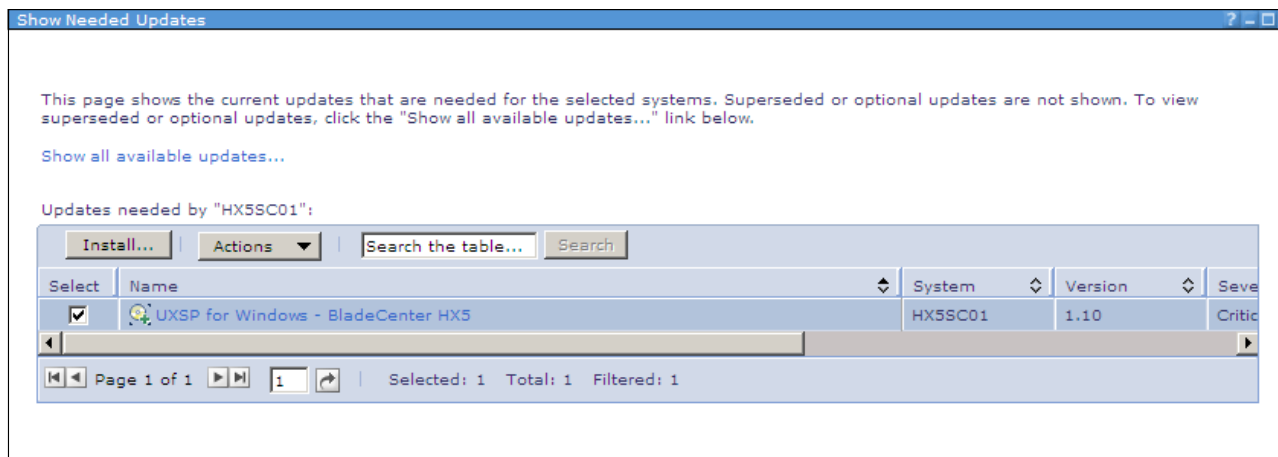

Figure 9-44 Available updates to be deployed to the HX5 scalable system
3. Right-click the operating system object of the complex that you want to update and select **Release Management** → **Show needed updates**. Any updates that are applicable to be deployed to the system will be displayed, as shown in Figure 9-44. For our example, we imported the latest UpdateXpress System Pack bundle for the HX5 into IBM Systems Director.